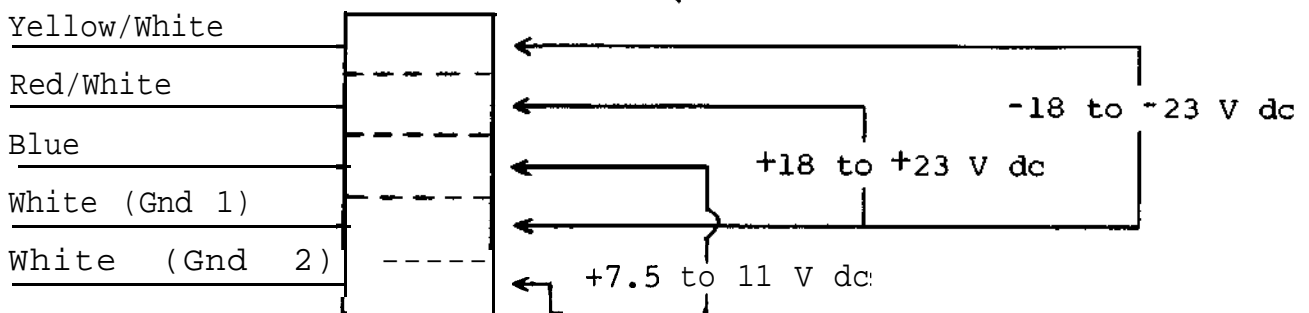

Figure 2-7. Sol-20 power connector and voltage measurements.
- *() Check connector on Sol-20 power cable (5 wire) to insure it is wired as shown in Figure 2-7.
- *() Measure the voltages at the Sol-20 connector at the points indicated in Figure 2-7. The voltages must be within the ranges given in Figure 2-7. (See preceding NOTE.)